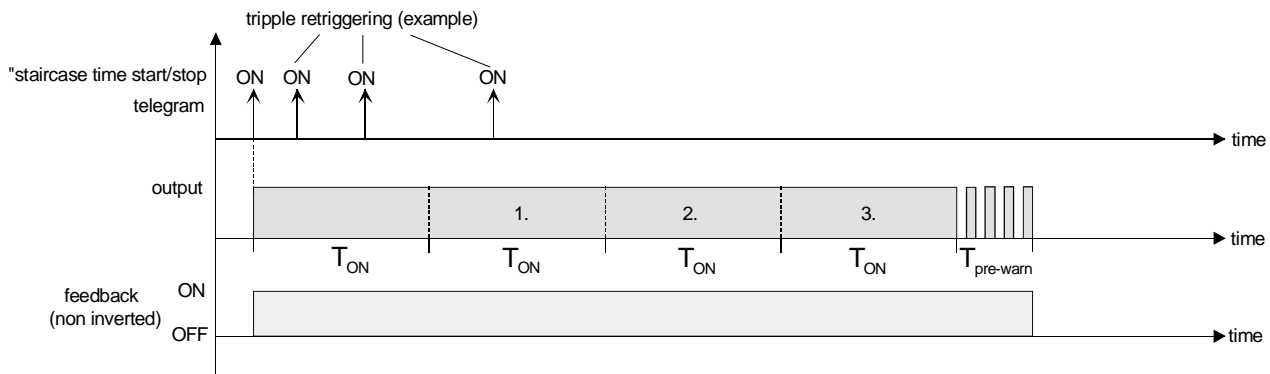

Fig. 14: Time extension for staircase lighting function
With the time extension function, the staircase time can be retriggered several times (i.e. extended) via the "Staircase function start/stop" object. The duration of the extension is defined by repeated operation of a control device (several ON-telegrams in succession). The parameterized staircase time can thus be extended by the parameterized factor (max. 5-fold). The extension is then always automatically added to the end of a simple staircase time ( $T_{ON}$ ) (cf. Fig. 14).
- Set the parameter "Supplementary function for staircase function" on parameter page "Ax – Staircase function" to "Time extension" and select the desired factor in the "Maximum time extension" parameter. On reception of an ON-telegram to the "Staircase function start/stop" object, the staircase time is retriggered at the end of the ON-time as often as determined by the number of telegrams received, however, no longer as permitted by the parameterized factor. Thus, the setting "3-fold" means that the started staircase time can be automatically retriggered at maximum three more times after elapsing. This means that the time corresponds to 4 times the basic time (cf. Fig. 14).